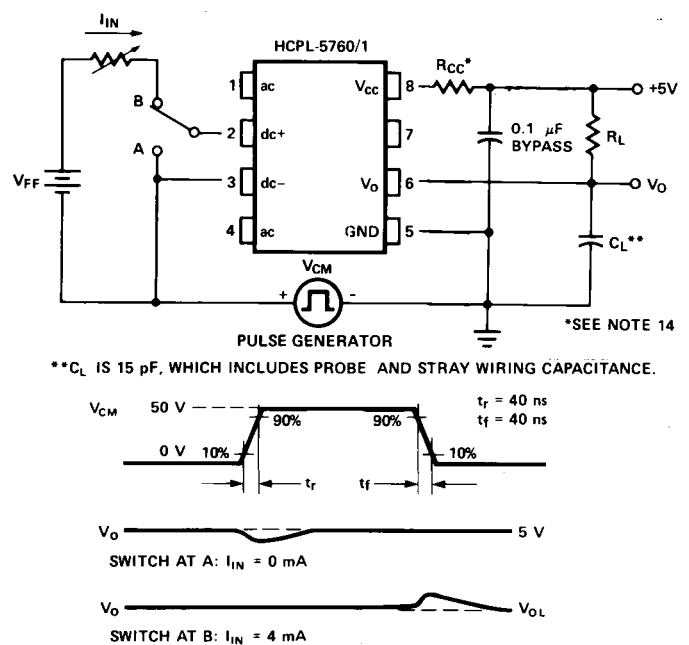

Figure 8. Test Circuit for Common Mode Transient Immunity and Typical Waveforms.
- Common mode transient immunity in Logic High level is the maximum tolerable dV_{CM}/dt of the common mode voltage, V_{CM} , to ensure that the output will remain in a Logic High state (i.e., $V_O > 2.0\text{ V}$). Common mode transient immunity in Logic Low level is the maximum tolerable dV_{CM}/dt of the common mode voltage, V_{CM} , to ensure that the output will remain in a Logic Low state (i.e., $V_O < 0.8\text{ V}$). See Figure 8.